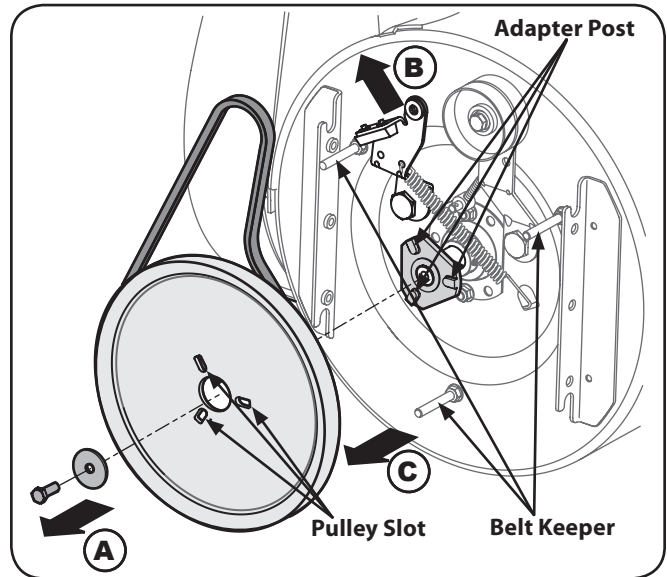

Figure 7-7
6. Block the impeller with a piece of wood to prevent from spinning and use a 1/2" wrench to remove the hex screw and flat washer from the center of the auger input shaft and auger pulley adapter. Refer to Figure 7-7.
7. Lift the brake bracket assembly out of the pulley groove and slide the pulley assembly off the posts of the auger pulley adapter to remove the old belt. Refer to Figure 7-7.
9. Turn the pulley as necessary to align its three slots with the posts of the pulley adapter, then move the brake bracket assembly away from the input shaft. While aligning the pulley slots and adapter posts, push the auger pulley fully onto the adapter. Refer to Figure 7-7.
NOTE: If the pulley adapter was removed with the pulley, align the splines of the pulley adapter and auger input shaft, and push the pulley and adapter onto the input shaft. Refer to Figure 7-7.